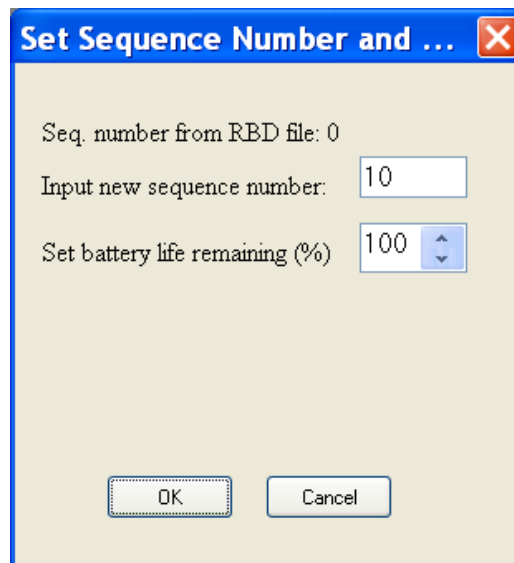

Figure A.7 Set Sequence Number
5. Insert the sequence number and remaining battery life (see figure A.7). Note that if the sequence number is set too low, data will be overwritten.